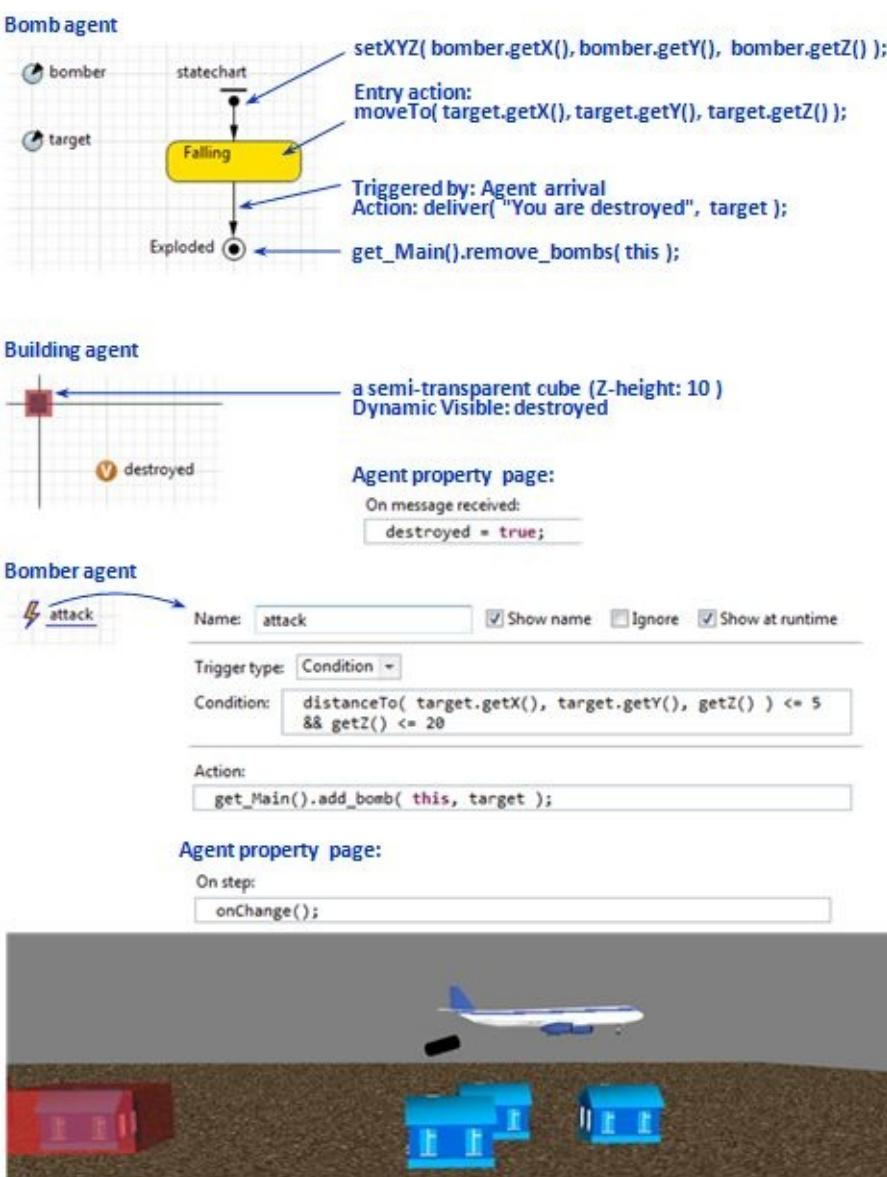

Figure 3.30 The interaction between the bomber, the bomb, and the target building
38. Draw the statechart of the *Bomb* as shown in Figure 3.30.
43. Open the editor of *Bomber* and add a condition-triggered event as shown in Figure 3.30.